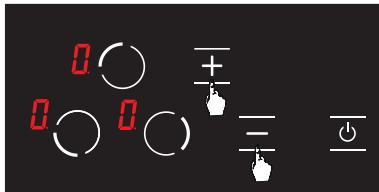

Figure 16
- Using the **+** and **-** keys, bring the temperature on all hobs to **0**. (see Fig. 16) Stove shall be turned off by itself after 20 seconds.